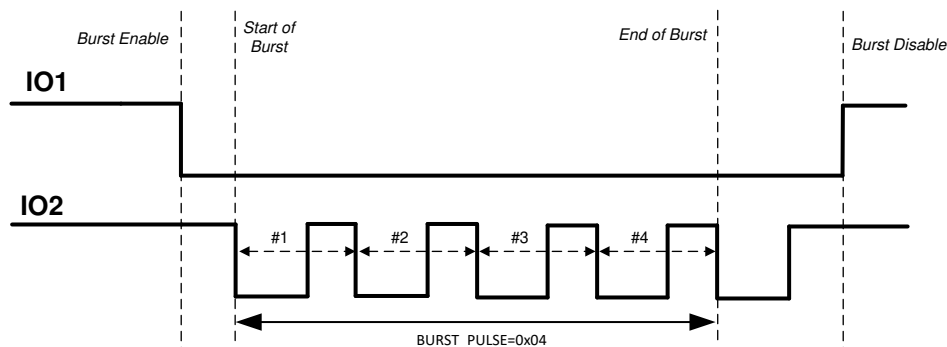

**图 7-2. IO\_MODE 1 Description**
- **IO\_MODE = 1:** In this mode, the external clock for the transducer is applied at the IO2 pin and the burst mode is enabled when IO1 pin transitions low (see 图 7-2). The device then expects a clock at IO2 pin to generate pulses on the OUTA/OUTB pins. The start of burst happens from the first falling edge of IO2. The number of pulses are counted by counting falling edge to next falling edge transitions on IO2 once the start of burst is triggered. End of burst sequence is signaled when the number of pulses defined in BURST\_PULSE are sent or IO1 transitions high, whichever occurs earlier. TI recommends that IO2 is held high before start of burst to count the number of pulse correctly. After the start of burst, the state of OUTA and OUTB pins are determined by IO1 and IO2 pins. A transition of IO1 from low to high to low again is required to initiate a new burst sequence.